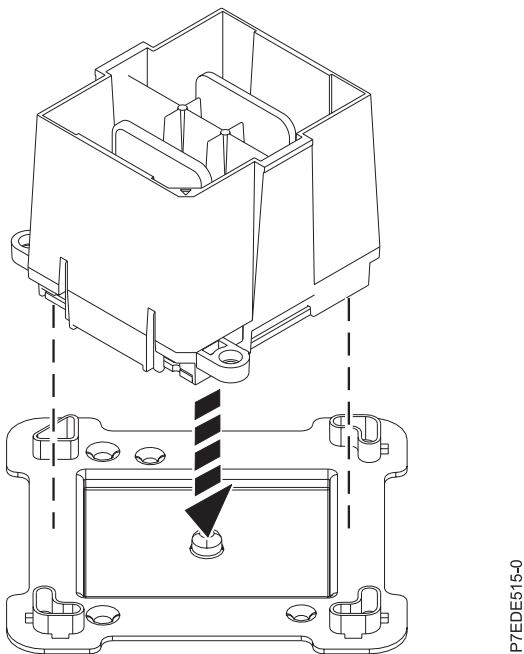

Figure 7. Placing the tool at an angle on the top cover of the packaging
13. Holding the outside of the tool, lift the tool and system processor module from the socket and place them at an angle in the top cover of the system processor module packaging that was opened in step 8, as shown in Figure 7.